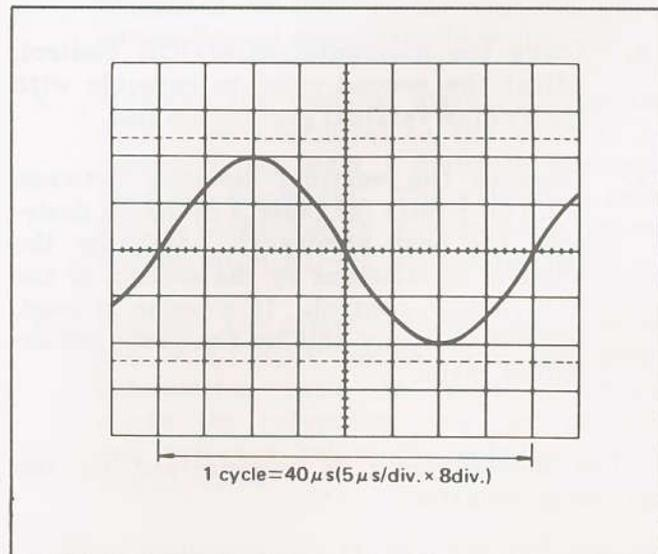

Fig. 8. Frequency Measurement.
(Refer to Fig. 8)
- Set up the oscilloscope to display one cycle of waveform (see Fig. 8).
In the example shown in Fig. 8, a period of 40 μs is observed. Substituting this value into the above equation, the frequency is calculated as follows: